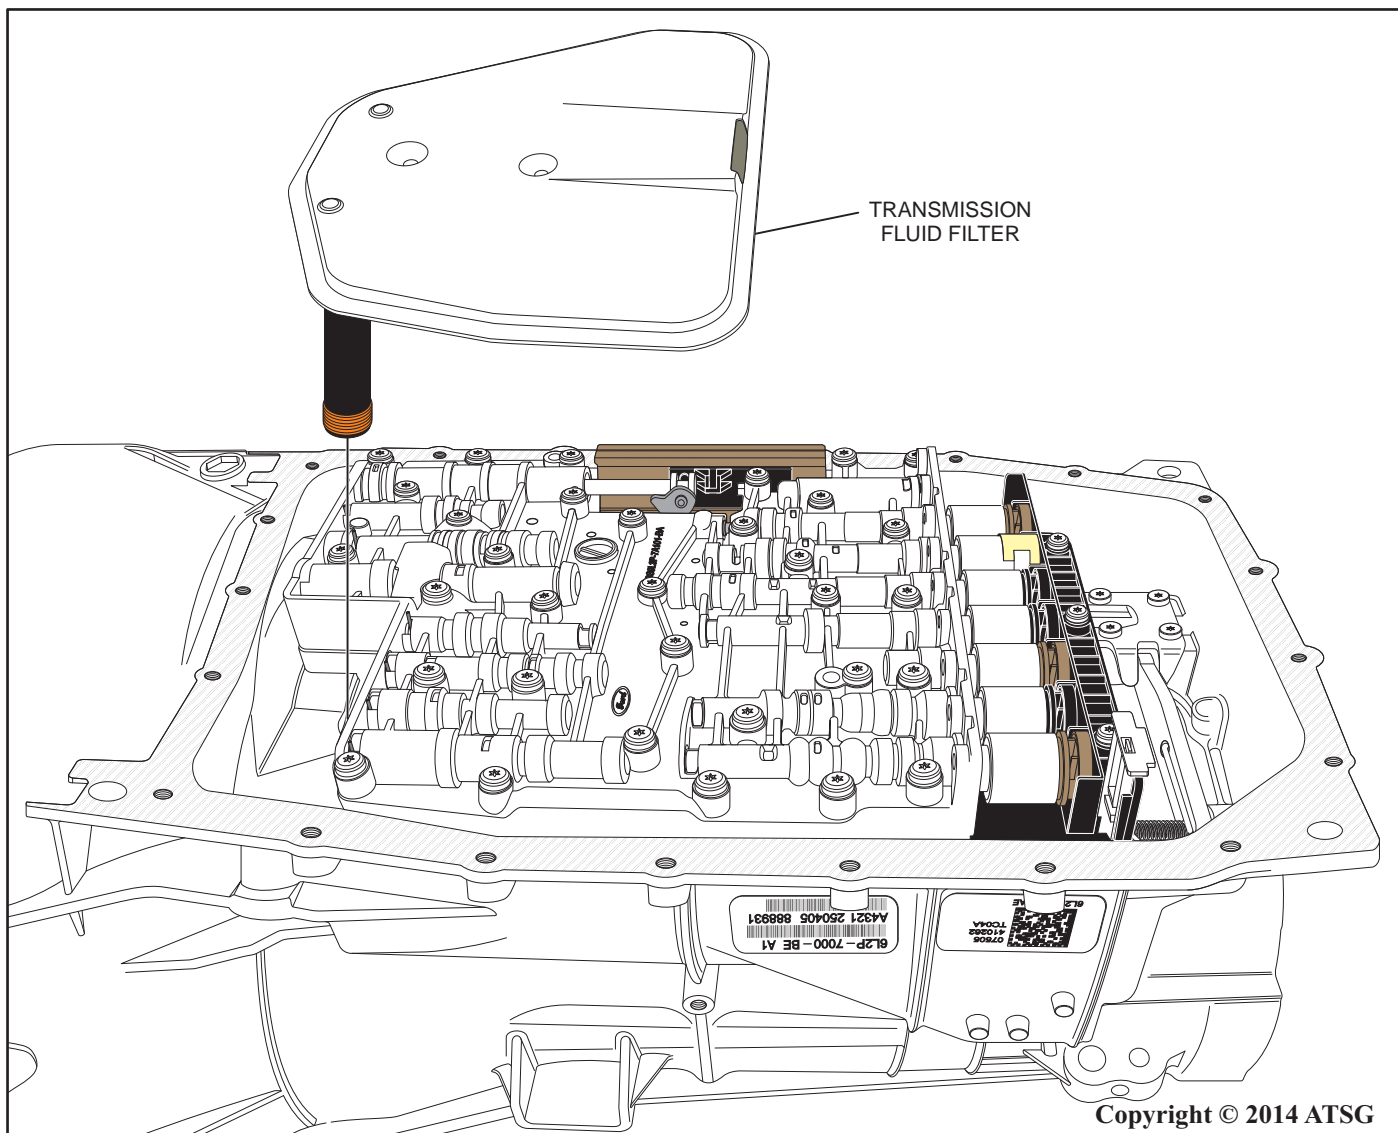

Figure 36
6. Using a twisting motion, lift upward to remove and discard the transmission fluid filter as shown in Figure 36. **(Make sure filter seal does not remain in the pump, if it does, carefully remove it with a hooked scribe).**